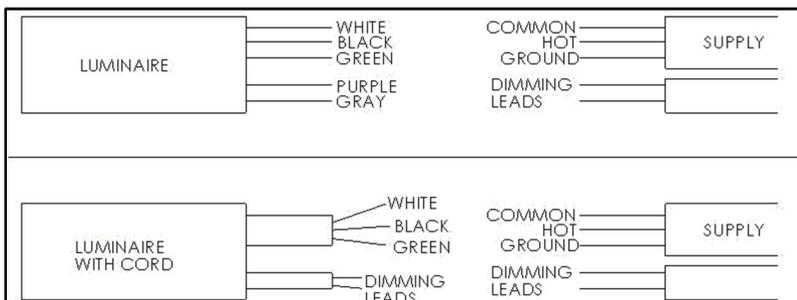

Figure 2
3. Connect wires as shown in wiring diagram (Figure 2)